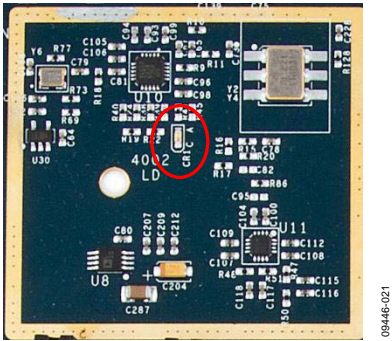

Figure 21. ADF4002 (1) Placement
**ADF4002 (1) Placement**
A photo of the ADF4002 (1) placement is shown in Figure 21. The input reference can come from the on-board 30.72 MHz crystal (Y6) or the SMA connector, SYSCLK\_IN (J5). It can also be passed from the FPGA through the FMC or HSMC connector. The synthesized 122.88 MHz output of the ADF4002 (1) is buffered with the ADCLK925 (U11) and distributed to the AD9516 and the second ADF4002 (2). When the PLL is locked, CR1 is illuminated.